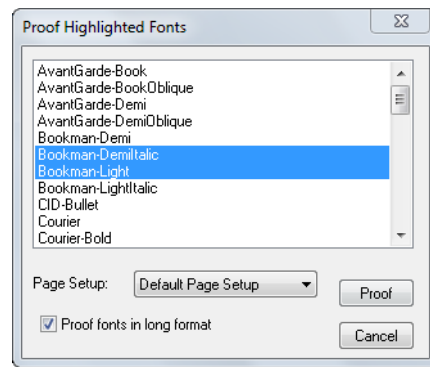

Figure 3.3 Proof Highlighted Fonts dialog box
1. From the **Fonts** menu, choose **Proof Fonts**. A window appears with a list of the available fonts, which Rasterize-it can use with any of its possible output devices.(See Figure 3.3.)